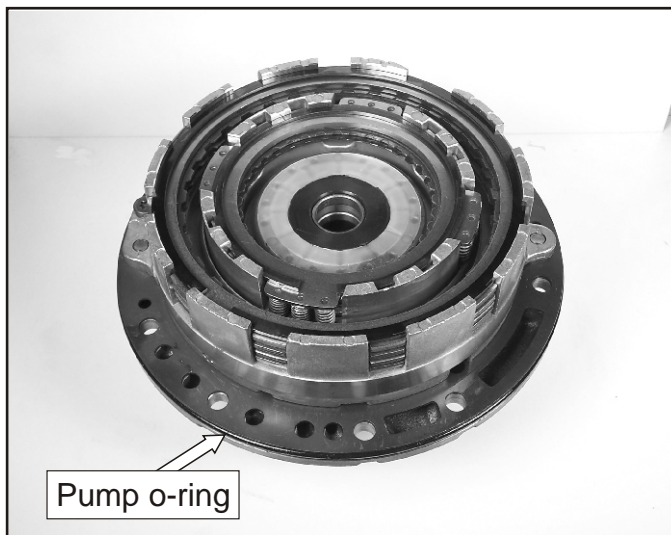

Figure 127
- 73. Install pump o-ring as shown in Figure 127.